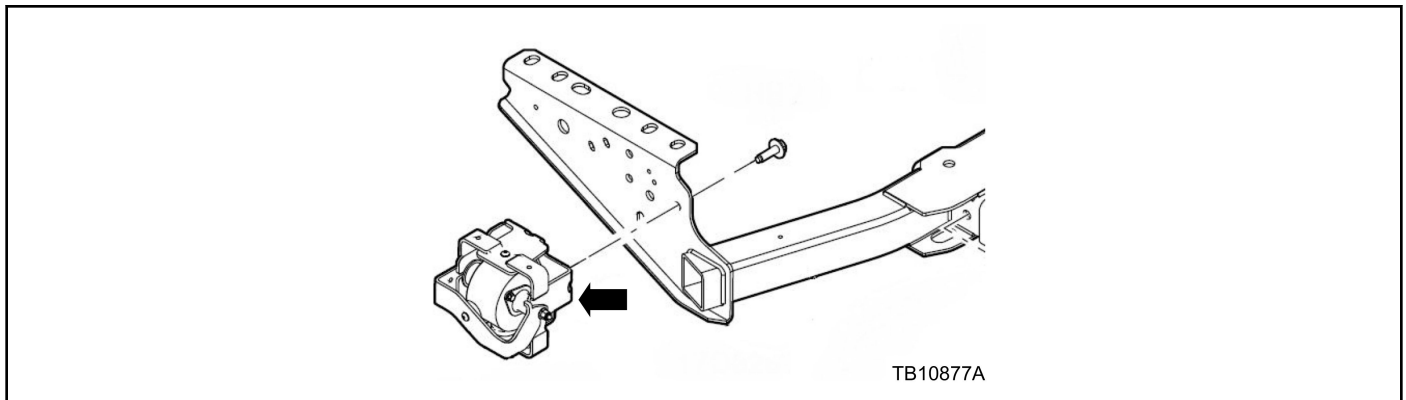

Figure 1 - Article 16-0087
2. Does the vehicle have a cage damper mounted to the factory trailer hitch on the driver side? (Figure 1)